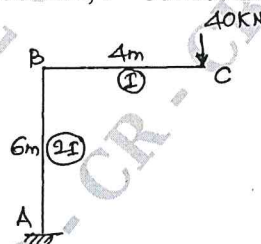

Fig.Q7(b)
- b. Determine the vertical deflection at C of a bent frame shown in the Fig.Q7(b). Use Castigliano's approach. Take $E = 200 \text{ GPa}$, $I = 80 \times 10^7 \text{ mm}^4$.